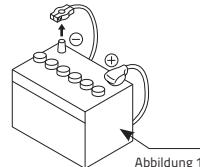

Abbildung 1
- 3.Make sure the battery "-" terminal is disconnected before starting. This is to prevent short circuits during installation. (Figure 1)
Dies soll Kurzschlüsse während der Installation verhindern. (Abbildung 1)